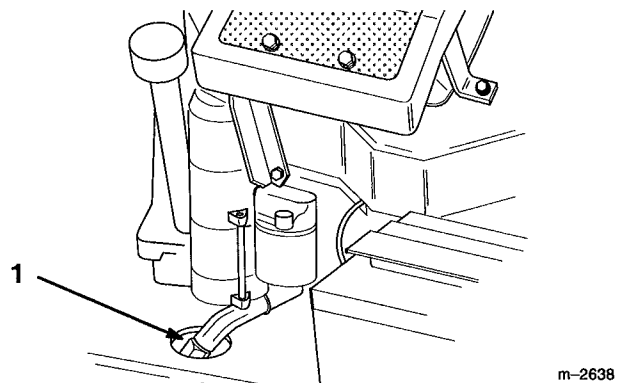

Figure 18
3. Place a pan below the oil drain. Remove the oil drain cap (Fig. 18).